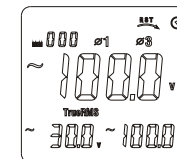
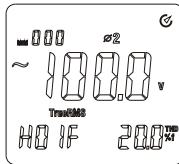
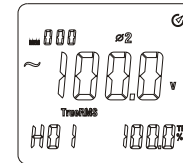

Figure 20
Figure 22
Figure 23
4) LCD will display default phase detection result if certain phase of voltage is less than 50V or without signal for three-phase four-wire system load. As shown in Figure 20, symbols of corresponding phases will not be displayed on LCD.
Measurement steps: Press HARM key to enter into measurement mode of total voltage harmonics to total wave distortion rate firstly after bootstrap and connect voltage signal of measured phase to voltage input end of instrument by probe and connect zero wire to COM end. As shown in Figure 20, connect phase wire to any port of V1/V2/V3 and press SELECT key so that measurement port can be consistent with input port. As shown in Figure 22, LCD will display current harmonic order (with auxiliary display in left lower corner), total voltage harmonics for full wave distortion rate (with auxiliary display in right lower corner) and effective value of harmonic voltage (with main display in the middle) respectively.
Measurement steps: Press HARM key to enter into measurement mode of voltage harmonic components after bootstrap and connect voltage signal of measured phase to voltage input end of instrument by probe and connect zero wire to COM end. As shown in Figure 20, connect phase wire to any port of V1/V2/V3 and press SELECT key so that measurement port can be consistent with input port. As shown in Figure 23, LCD will display current harmonic order (with auxiliary display in left lower corner), effective value of harmonic voltage (with main display in the middle) and percentage of effective value of harmonic component for effective value of fundamental wave (with auxiliary display in right lower corner) respectively.